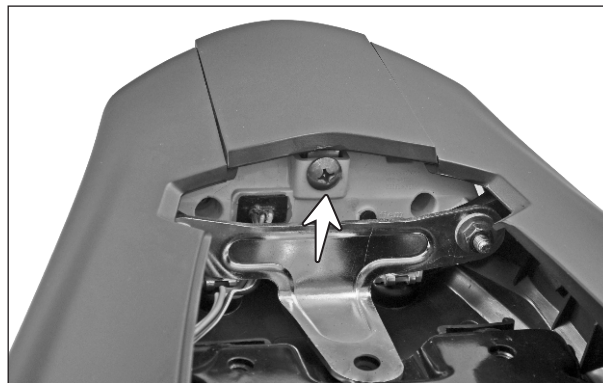

Fig. 2.27
- Remove the CRR pan head screw (M6x16) from the tail cover centre rear. (Fig. 2.27)